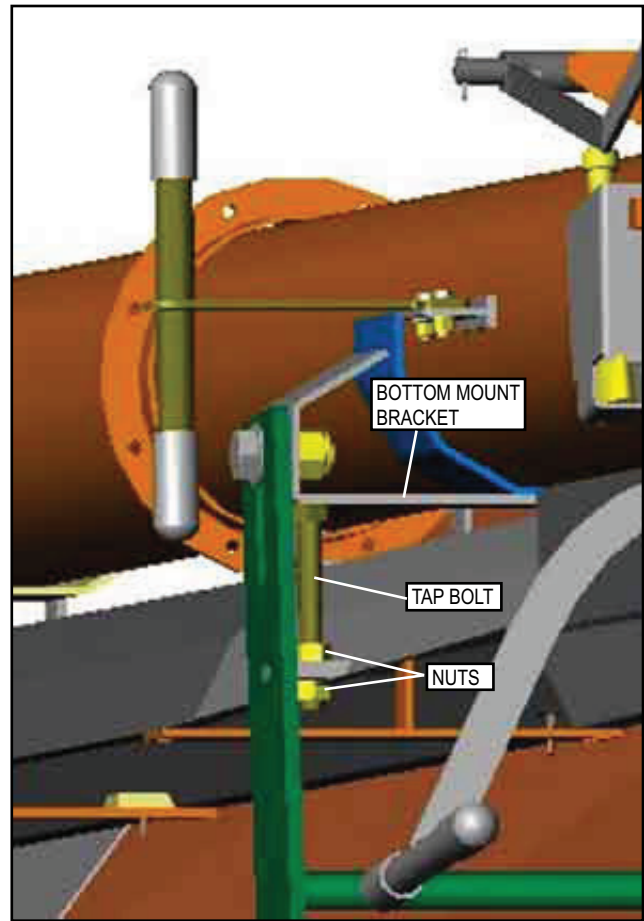

Figure 11.43 - Front Conveyor Support
1. Adjust the nuts on each tap bolt (two locations) by the desired amount. *Figure 11.43*